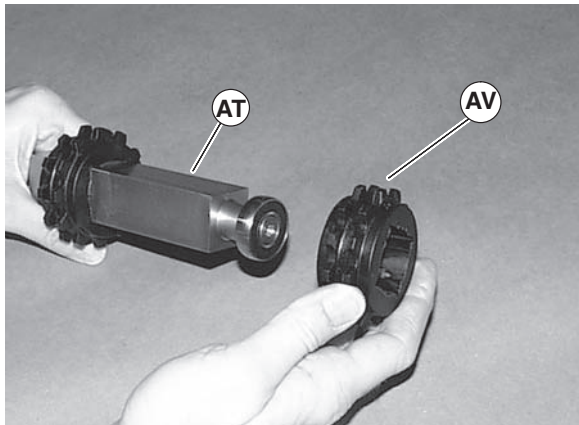

Figure 31
3. Slide free moving sprocket(s) (Figure 31, item AV) off the end of pulley (AT).